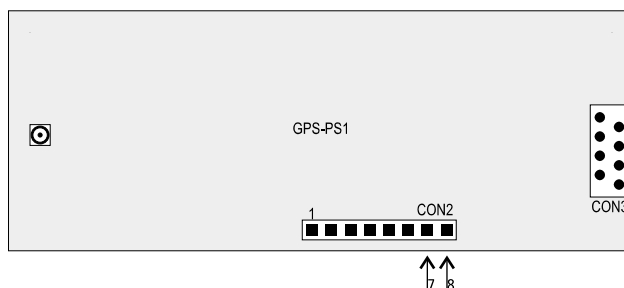

Figure 2.2: GPS-PS1 Update Pin Position
4. For hardware revision 04/98 and higher, shorten the circuit on the optional connector CON2 on GPS-PS1, Pin 7 and 8. (See figure 2.2)